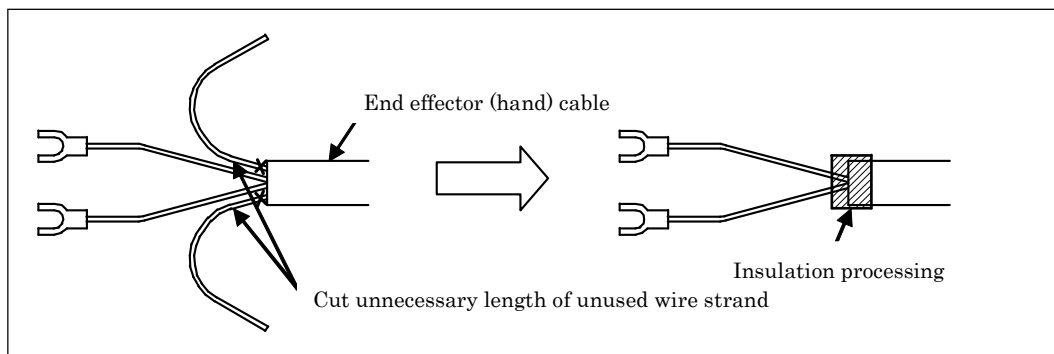

Fig.9.8 (a) Treatment method of end effector (hand) cable
- Cut and discard any unnecessary length of wire strand of the end effector (hand) cable. Insulate the cable with seal tape. (See Fig. 9.8 (a))
Fig. 9.8 (b) to (f) show the position of the option cable interface. EE interface (RDI/RDO or RI/RO), I/O Unit-MODEL B interface, user cable (signal lines, power lines) and DeviceNet cable (signal lines, signal line usable to the force sensor, signal line usable to force sensor and 3DL sensor, power lines), additional axis motor cable (Pulsecoder line), additional axis motor cable (power and brake), camera cable and 3DL sensor cable are prepared as options.